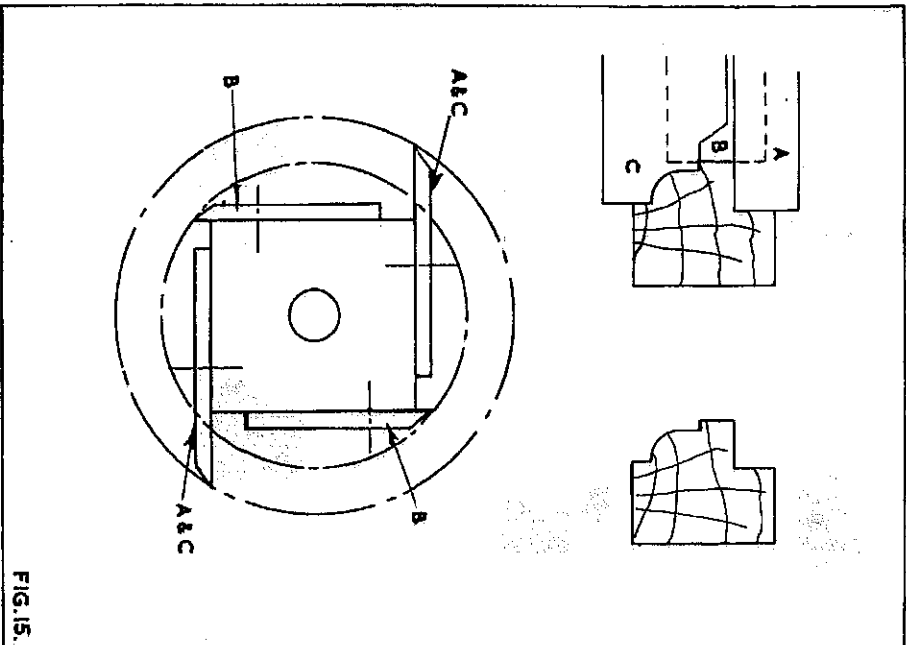

FIG. 15.
**FRAMING ON SQUARE BLOCK FIG. 15.**